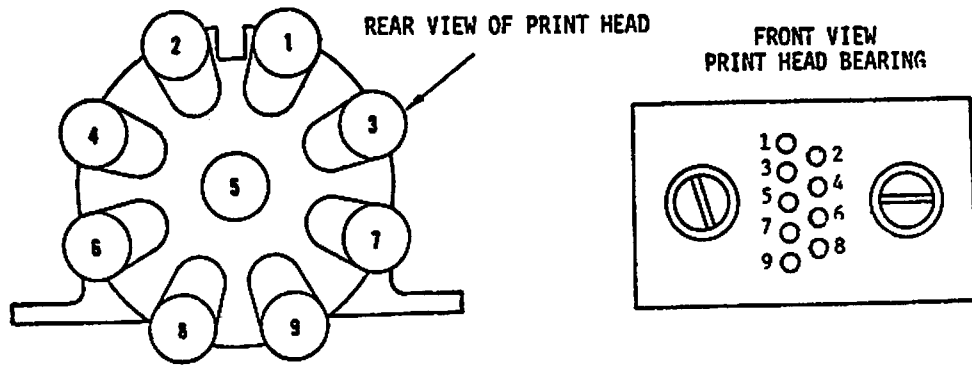

FIGURE 5-9 IDENTIFICATION OF SOLENOIDS
- 2) Unlock the desired solenoid by loosening its corresponding nylon tip locking set screw WL #650-4086 (8-32 X 15/64). These screws are positioned radially at the rear of the print head. (See Figure 5-9)